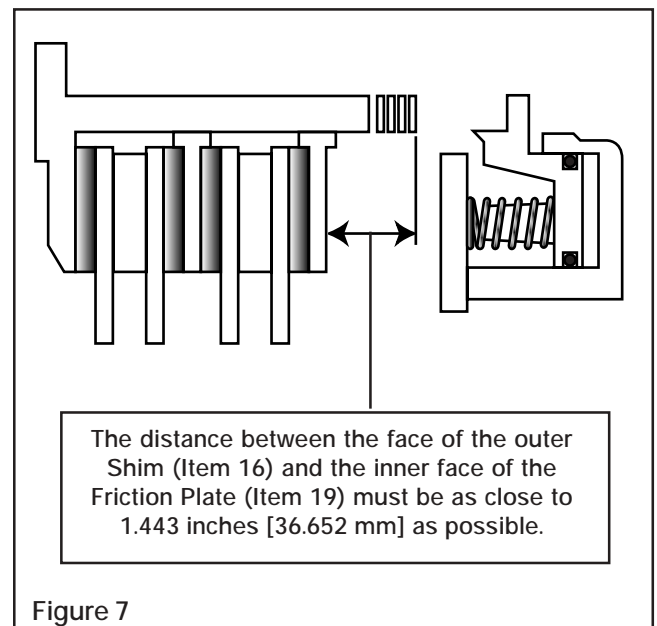

Figure 7
4. Measure the distance from the Shims (Item 16) to the inner face of the Friction Plate (Item 19) (See Figure 7).
**NOTE:** The distance between the face of the outer Shim (Item 16) and the inner face of the Friction Plate (Item 19) must be as close to 1.443" [36.652 mm] as possible (See Figure 7).